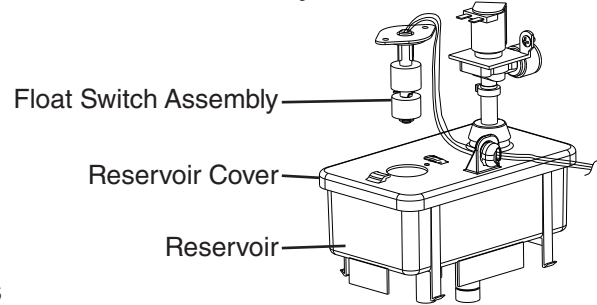

Fig. 9
- 10) In bad or severe water conditions, clean the float switch assembly as described below. See Fig. 9. Otherwise, continue to step 11.